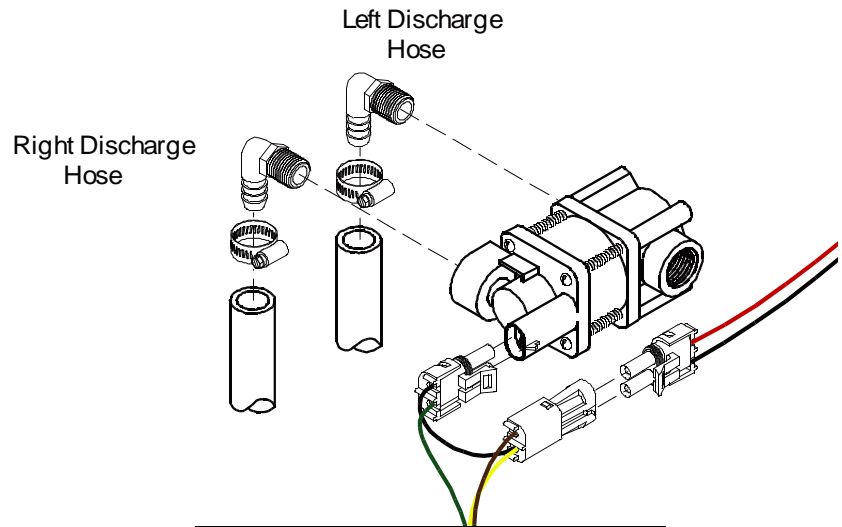

Figure 4: Discharge hose mounting
1. One 80 foot length of 5/8" discharge hose is included and may be cut as needed. Begin by attaching the discharge hose to the hose bars on the solenoid valve on the foamer unit. It is important that you determine which hose barb is for the left and for the right side. See Figure 4 on page 5. Clamp the hose onto the hose bars with the included hose clamps.